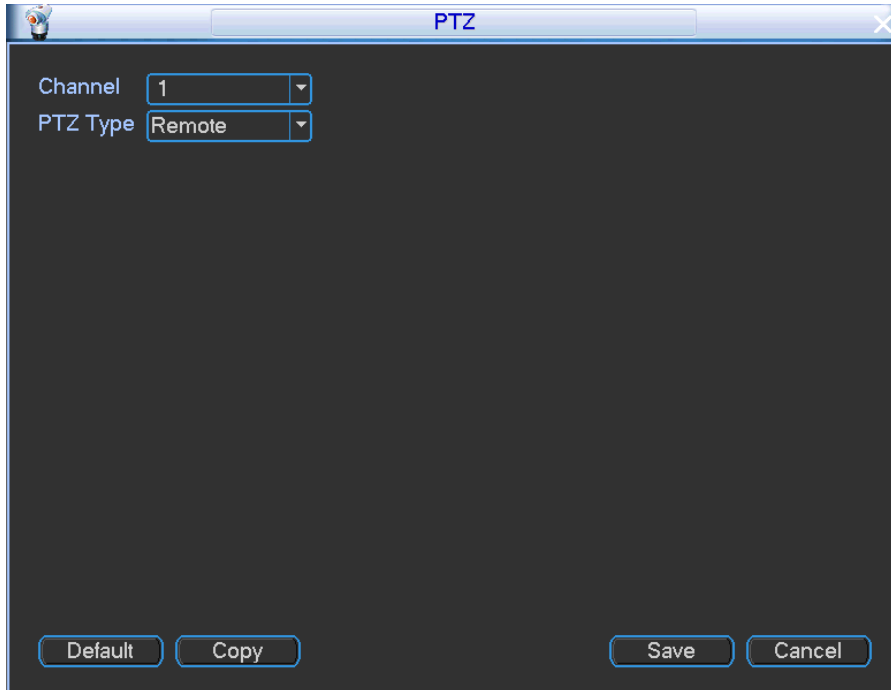

Figure 4-31
- Decoder A (B) line connects with NVR A (B) line.
- Step 1 On the main menu, from setting to Pan/Tilt Control, Enter PTZ interface. See Figure 4-31.